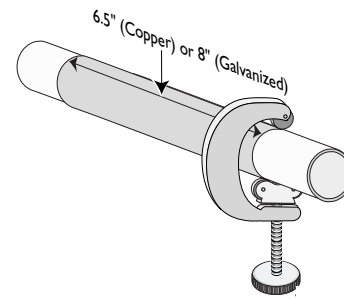

Figure 2
3. Place the template on the pipe and cut the pipe as shown in Figure 2.